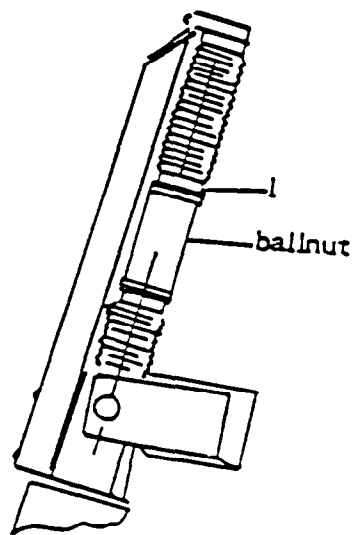
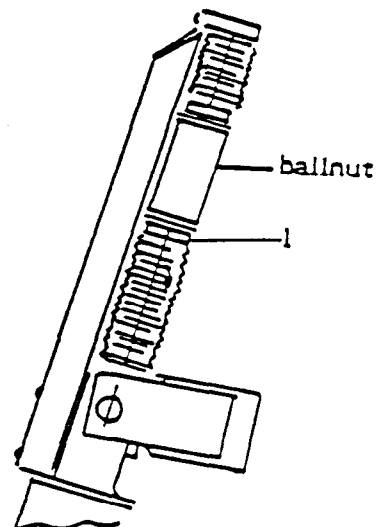

Figure 2A
Figure 2B
- o The protective bellows over the ball screws must be released to enable lubrication of the ball screws. It might be sufficient to cut only the lower cable tie (Fig. 2A, item 1) of the upper bellow and the upper cable tie (Fig. 2B, item 1) of the lower bellow.